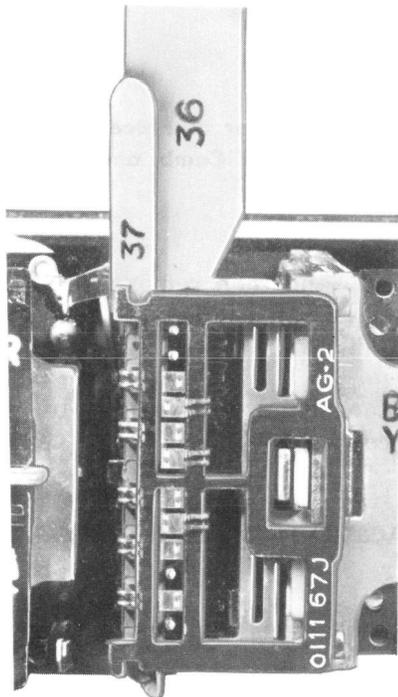

Fig. 7—Detail 37 Comb in Place With Detail 36 Lifter
3.12 Insert detail 37 comb behind the card and in front of detail 36 lifter with the teeth facing the lifted movable contacts as shown in Fig. 7. The comb automatically will come to rest on the stop, and the movable contact springs will align in pairs between the teeth of the comb.